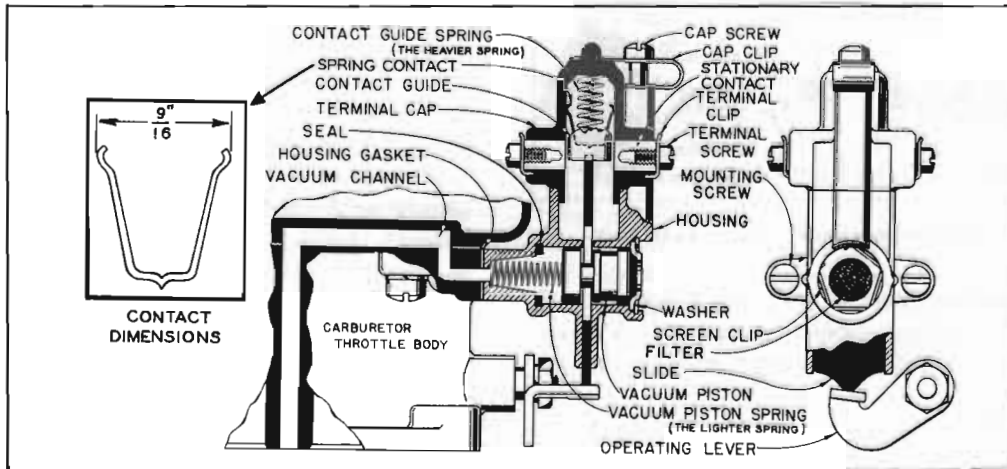

Figure 10-35—Stromberg Accelerator Vacuum Switch—Engine Not Running
The switch housing is provided with a horizontal cylinder barrel to which vacuum from the engine manifold is applied at one end by means of cored and drilled passages in the carburetor bodies. This end of the barrel is provided with a washer which forms a seal to prevent leaks when a piston opposed by a light spring is drawn against it by vacuum. The opposite end of the barrel is vented to outside air through a fine mesh screen and felt filter held in place by a washer and clip. A flat slide, actuated by an operating lever on the throttle shaft, moves in a confined slot in the housing and in a plane perpendicular to the axis of the cylinder barrel. This slide engages a cylindrical bakelite contact guide, the upward movement of which is opposed by a heavy contact guide spring. The contact guide carries a thin U-shaped spring contact which moves up and down within a bakelite terminal cap to engage stationary contacts for opening and closing the cranking motor control circuit. The terminal cap is held in place by a cap screw and cap clip. See figure 10-35
Figure 10-35 shows the accelerator vacuum switch with engine not running. The throttle is closed and the switch operating lever holds the slide in the upper position, thereby holding the U-shaped spring contact away from the stationary contacts in the terminal cap.
The switch may be readily disassembled by referring to figure 10-35. Wash all metal parts in Bendix Metalclene, or equivalent, and wipe dry. Do not soak bakelite parts in cleaning solution, but wipe with a clean cloth.
1. Make certain that the contact guide spring and the vacuum piston spring are installed in their proper positions. The contact guide spring may be identified as the heavier of the two springs. See figure 10-35.
3. Use care in handling the U-shaped contact spring to avoid altering the dimension of the open end. The open end measures  $\frac{3}{16}$ " from outside to outside of the curved ends of spring. See figure 10-35.